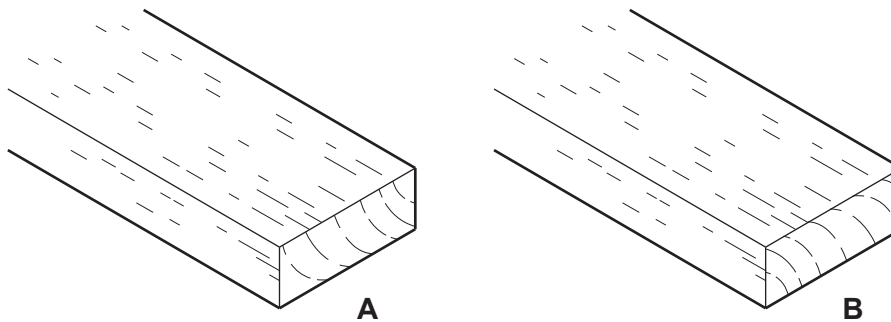

Fig. 9.1
- 9 Fig. 9.1 shows two lengths of softwood, **A** and **B**.